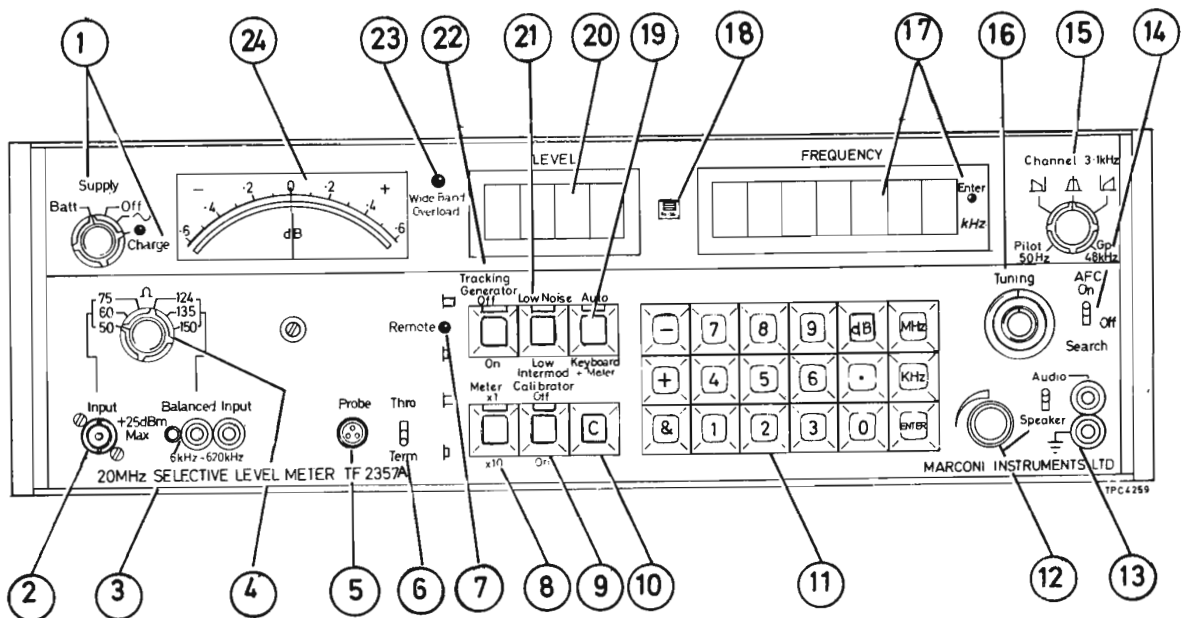

Fig. 3 TF 2357A - Front panel controls and connectors
13. The front panel controls and connectors shown in Fig. 3 are as follows:-